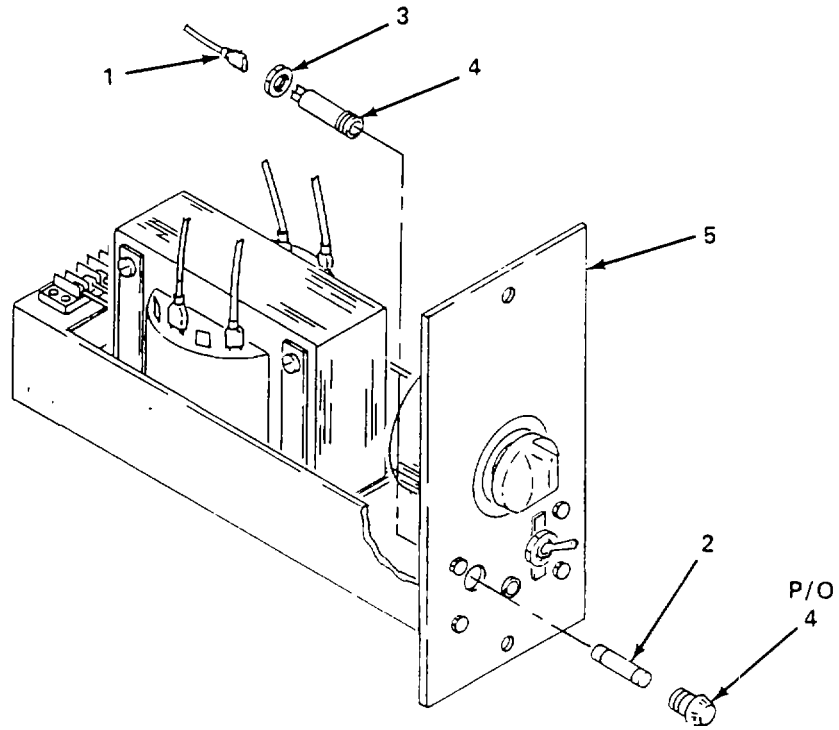

Figure 4-26. Single Light Power Supply (Outer Lock) Fuse, Replace.
b. Repair. (figure 4-26)
- (1) Tag and disconnect electrical leads (1).
- (2) Twist and remove fuse (2).
- (3) Remove nut (3) and fuse holder (4).
- (4) Install fuse holder (4) in cover (5) and secure with nut (3).
- (5) Install fuse (2) and connect electrical lead (1).